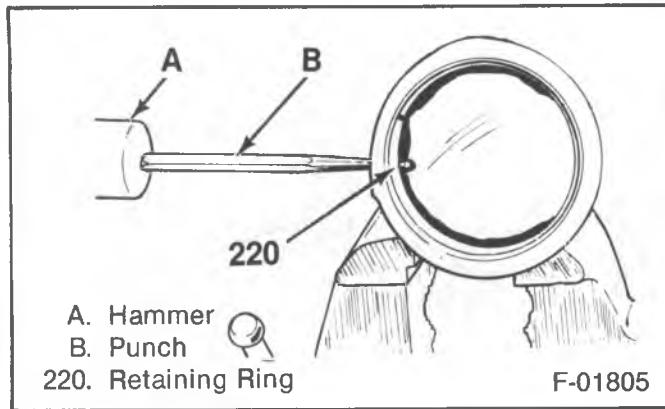

Figure 2—Unseating the Retaining Ring
1. Retaining Ring (220) (figure 2).